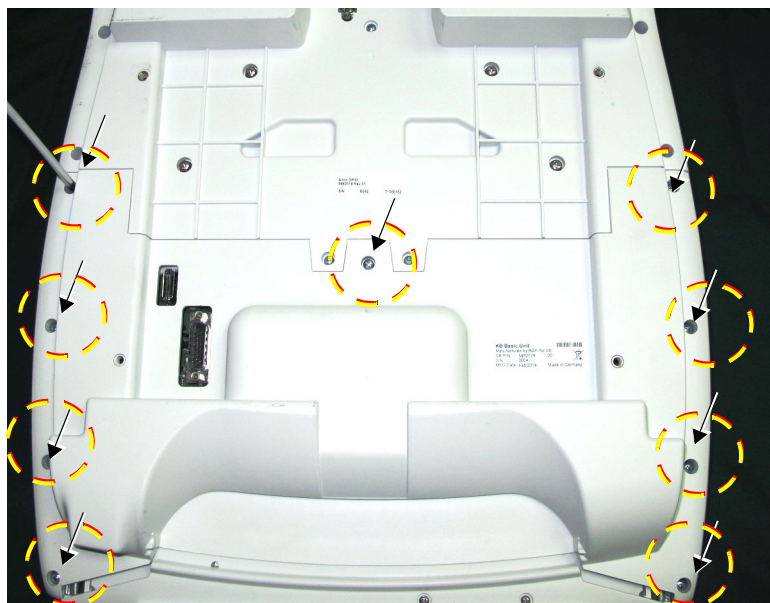

Figure 8-59 Operating Panel Keyboard Assembly - Bottom Cover Securing Screws
- 3.) Loosen and remove the 9 Phillips screws that secure the bottom cover in place - see Figure 8-59
- 3.) Return and fasten the 9 Phillips screws (previously removed) to secure the bottom cover to the keyboard assembly - see Figure 8-59.